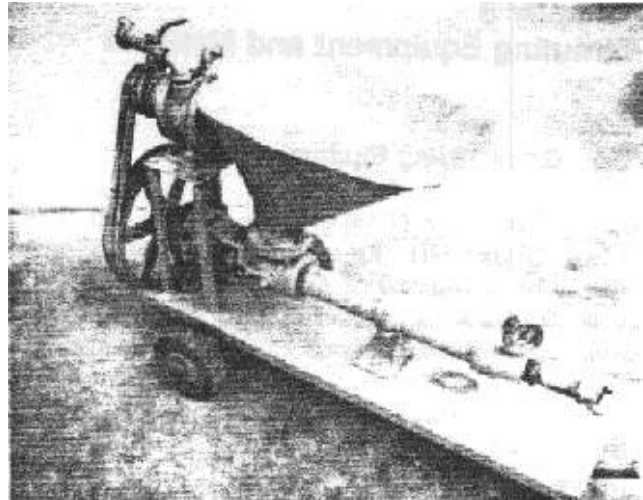

Figure 3-4. Positive-displacement screw pump
(1) Probably the most commonly used positive-displacement pump is the screw, in which a stainless-steel rotor turns within a flexible erosion- or chemical-resistant stator, forming voids that carry the material toward the discharge end of the pump at a constant rate (Figure 3-4).
(2) A pumping arrangement which can be adapted to chemical grout (and which can be operated by one man) consists of dual positive-displacement pumps mounted on a single frame. The pumps operate from a single power unit; however, the gear ratio of one pump can be varied, whereas the other pump has an unvarying gear ratio. This arrangement enables the operator to make a quick change in the proportion of reactant and the gel time by changing the gear ratio of the pump. The pump with the variable gear ratio is generally used to pump the ingredient of the grout that initiates reaction.
(3) Positive-displacement pumps produce less pulsation and thus are able to maintain a more uniform pressure, especially at low pressures, than piston pumps.